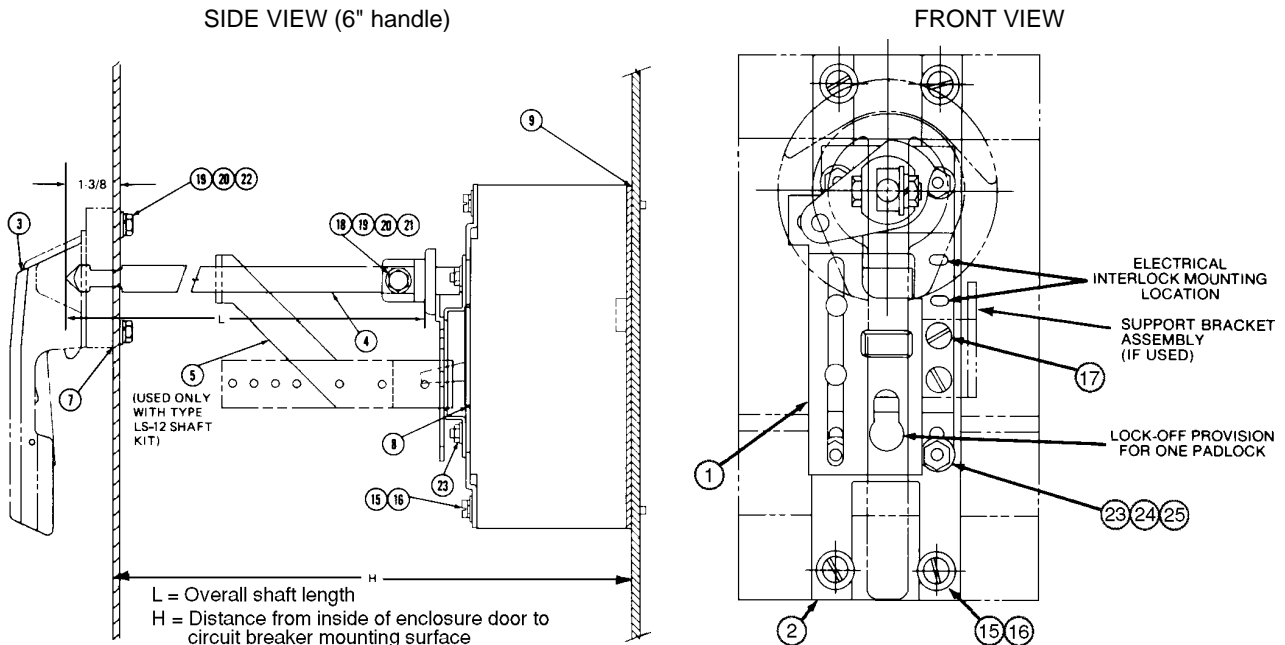
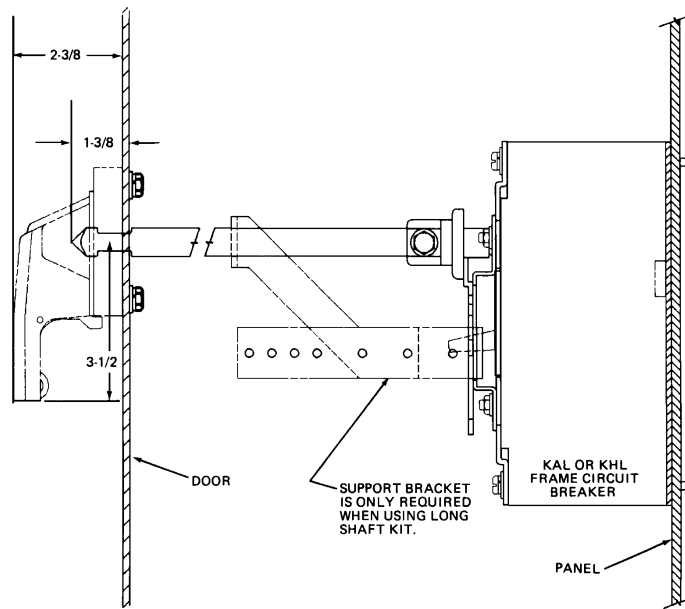

Figure 3 Mounting the Handle Assembly
Figure 4 3-1/2" Handle Assembly
^[1] See Figure 3 on page 4. ^[2] See Figure 4 on page 5.
1. Before beginning installation, read this entire installation section. To identify items, refer to Figure 3 on page 4.
- Position insulator (item 9) under circuit breaker. Using screws and washers (items 15 and 16), mount circuit breaker along with operating mechanism (item 1).
- Determine enclosure mounting depth (dimension H in Figure 3). Calculate the required shaft length (L) using the formula $L = H - 3-5/8"$. Cut shaft to length L.
- Insert shaft until it is completely seated in operating mechanism (see Figure 3). While holding shaft in place, mark the shaft through the shaft mounting hole. Remove shaft and drill a 9/32" hole through the mark on the shaft.
- Reinsert shaft into operating mechanism and secure it with screw, lock washer, washer and nut (items 18, 19, 20 and 21).
- Mount handle assembly and gasket (items 2 and 7) using self tapping screws, lockwashers and washers (items 22, 19 and 20). The 6" handle assembly is shown in Figure 3 on page 4. The 3-1/2" handle assembly is shown in Figure 4.